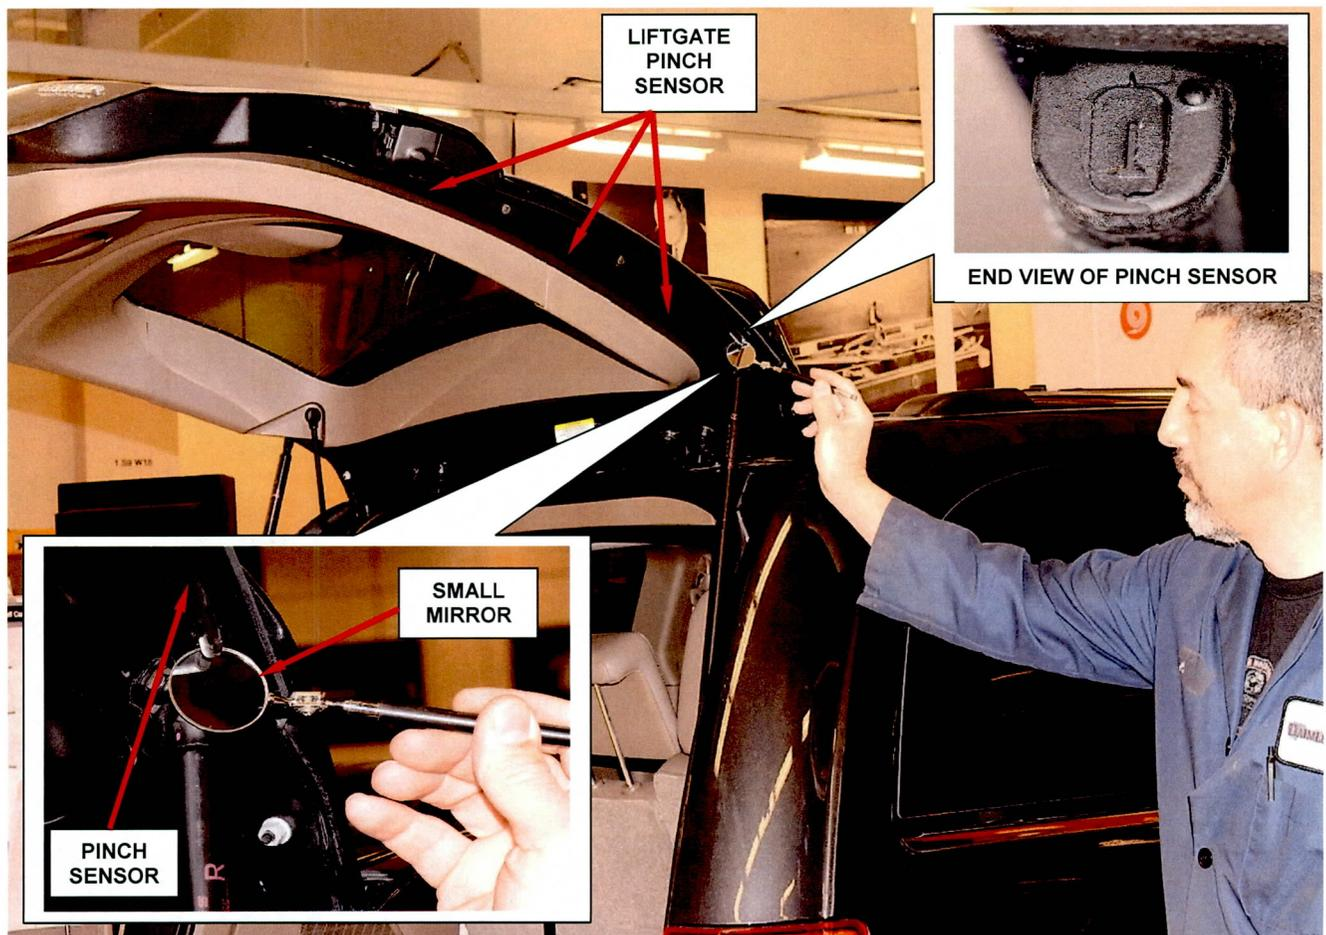

Figure 1 – Power Liftgate Pinch Sensor Inspection (good sensor shown)
2. Using a small mirror, inspect the end of the **right side** power liftgate pinch sensor (Figure 1):